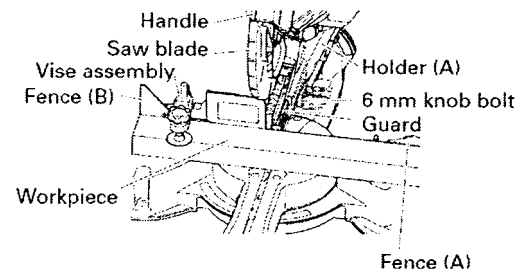

Fig. 28
(1) Groove cutting in guard
There is a plastic guard mounted in holder (A) (Fig. 28).